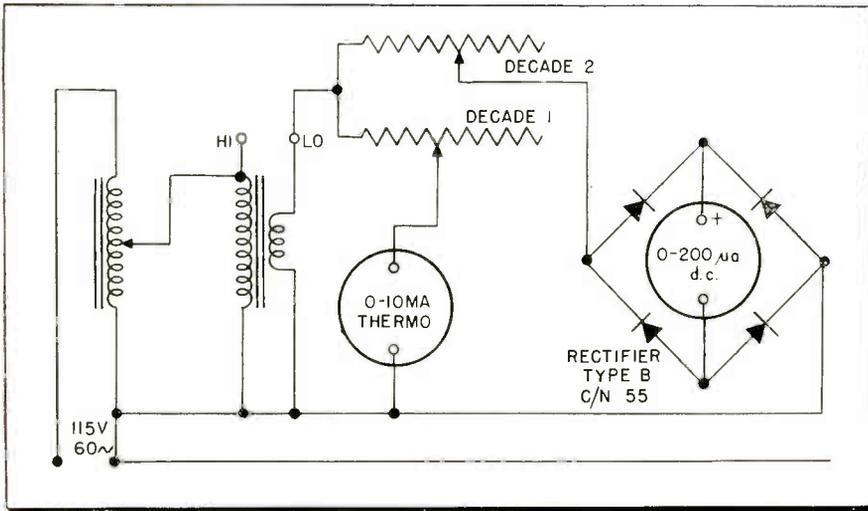

Fig. 1: Test set-up with thermo-milliammeter to obtain data on voltage doubling method
The nomograph shown in Fig. 1 may be used in the solution of eq. (1). Board dielectric constant is selected on the K scale and thickness on the d scale. These points are used to draw a straight line. The inter-
The circuit shown as Fig. 1 was set up in order to obtain typical results. All ac voltages were read at full-scale on the thermo-milliammeter by setting decade 1 on the basis of 100 ohms per volt including the 38.14 ohm internal resistance of the